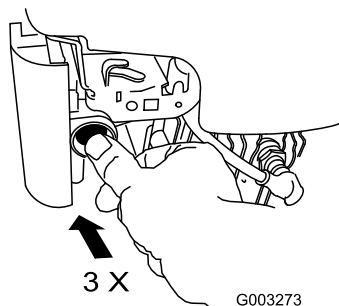

Figure 17
1. Firmly push in the primer 3 times with your thumb, holding the primer in for a second before releasing it each time (Figure 17).